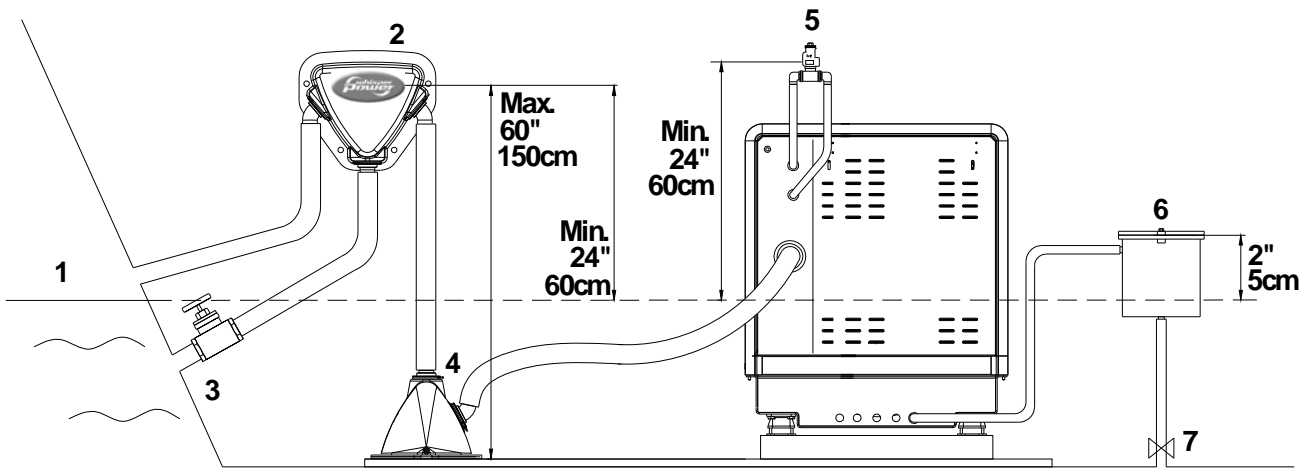

Fig. 6. Internal cooling system
Install the water strainer in a well accessible position, (refer to fig. 6, ref. 6) 5 cm above the waterline.